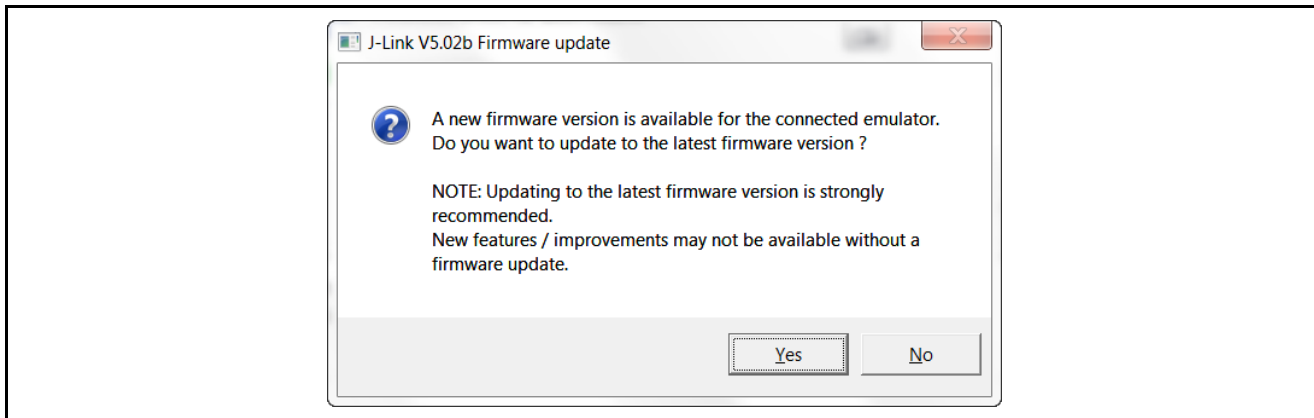

Figure 8. Update J-Link
Note: If the update J-Link firmware dialog box is displayed, it is recommended that you click **Yes**. A programming failure may occur if you update the firmware. If this occurs, double click on the .bat file again. See Figure 8 for details.
6. Double-click Program_AE_CAP1_S124_BWS_UART_Monitor_App.bat in the files. See Figure 8 for details.
Note: If the update J-Link firmware dialog box displays, it is recommended that you click **Yes**. A programming failure may occur if you update the firmware. If this occurs, double-click the .bat file again. See Figure 8 for details.